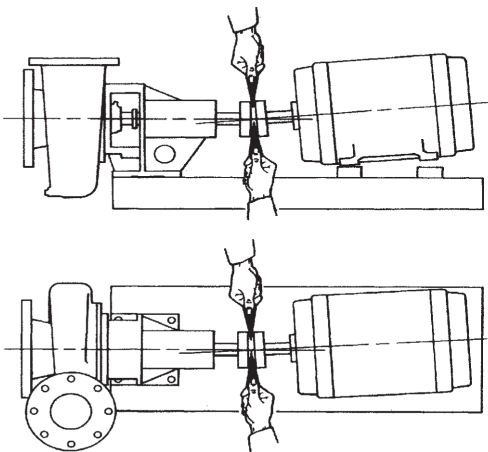

Fig. 5 Checking parallel alignment
- The pump and motor were accurately aligned at the factory, but handling during shipment usually alters this pre-alignment. Using a small straight edge and feeler gauges or a dial indicator, check for horizontal, vertical, and angular misalignment of the coupling hubs figures 5 and 6.